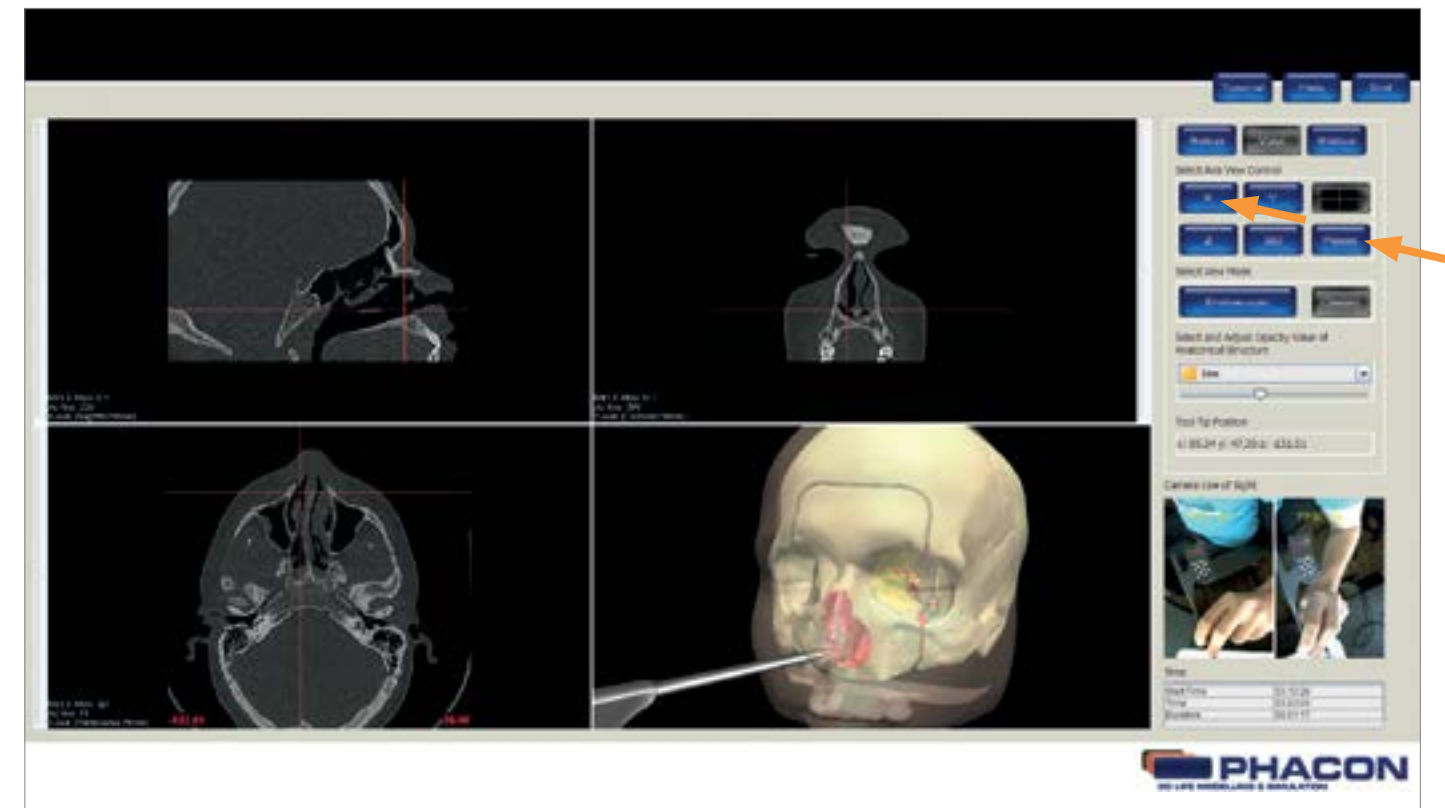

Fig.: 9
- Click on the X, Y, Z, or 3-D button to access the X, Y, Z, or 3-D surface windowpane in a full screen view, respectively (Fig. 9).